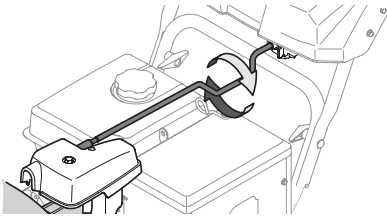

Figure 62
Follow this procedure to manually change the chute direction on models equipped with an electric chute control (joystick) and manual chute rotation control rod only (Figure 62).
- Grasp indented portion of chute control rod and manually rotate chute assembly to the right or to the left (Figure 62).